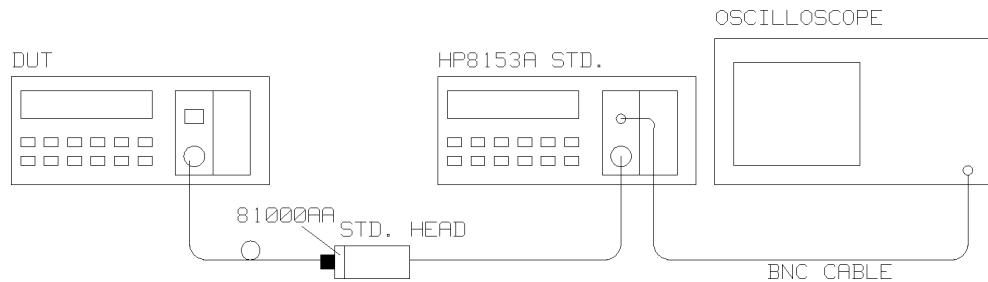

Figure D-1. Performance Test Setup
- d. Connect the equipment as shown in Figure D-1.